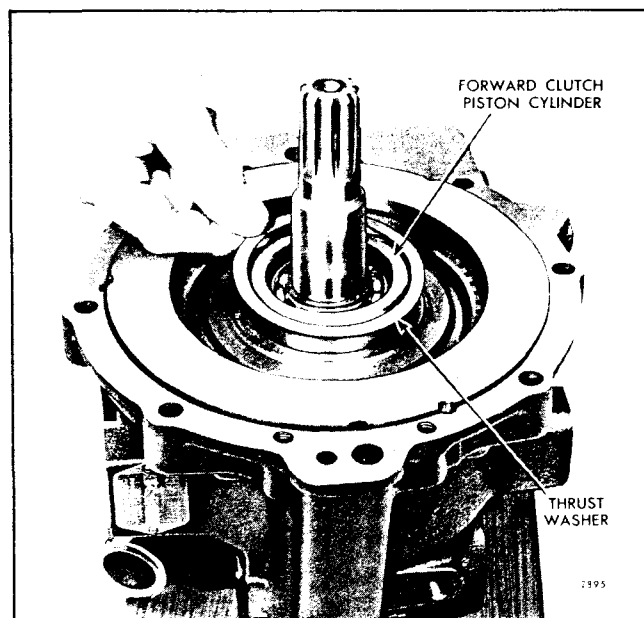

Fig. 79 - Installing Forward Clutch Piston Cylinder Thrust Washer
- a. Refer to Step 11 above for the dimensions of the thrust washers and install a new thrust washer over the hub of the forward clutch piston cylinder as shown in Fig. 79.